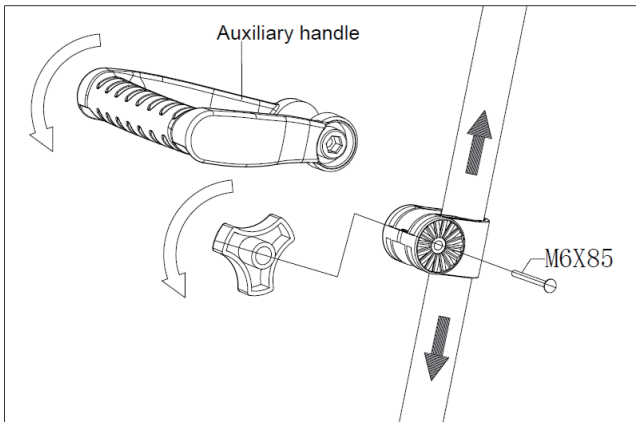

Fig. 3
1. Loosen the knob and lift up the handle to the operating position. (Fig.3)